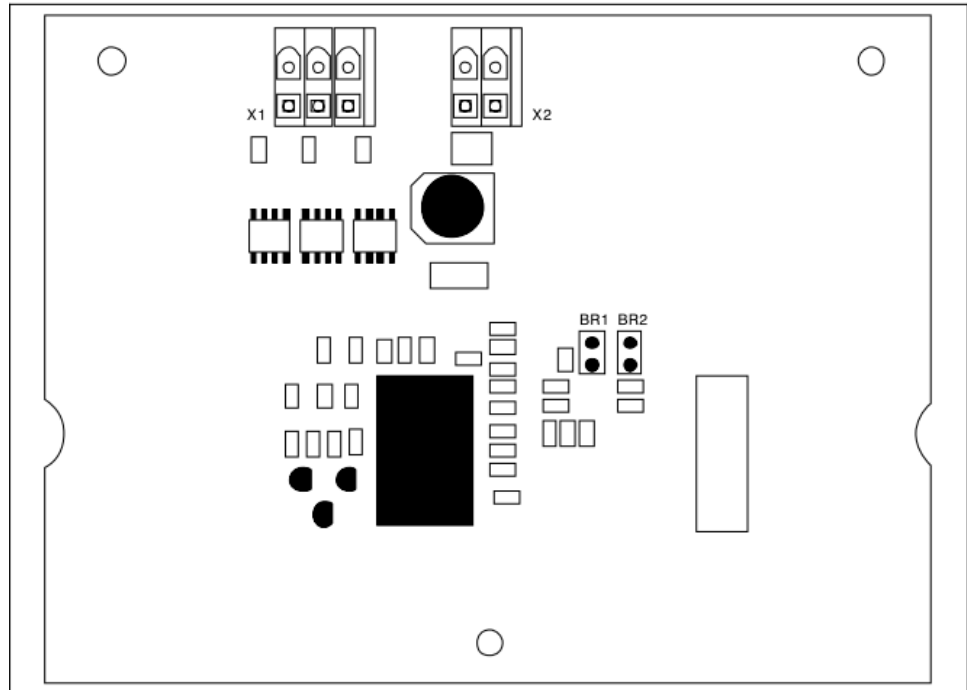

Fig. 5.5: Switching the fan voltage and fan connection terminal board on the FC-2 or FC-3 fan control circuit board
- ① Carefully unlock the snap-in closures of the housing using a screwdriver by simultaneously pressing in both clips located at one side of the housing lid. Then, lift the lid carefully.
- ② Pull the display board cable off the base board. Now remove the housing lid.
- ③ Place the calculated end-of-line resistor31  $R_{ER}$  into the connection terminal X1.
- ④ Fix the reset board to the mounting plate with 2 plastic spacers and one plastic spacer.
- ⑤ Install the mounting plate equipped with the reset board in the position shown in Fig. 5.5 in the TITANUS PRO·SENS® housing.
- ⑥ The electrical connection (X2) is described in section 5.6.4.
- ⑦ Re-connect the cable to the display board of the base board and replace the housing lid.
- ⑧ Tighten the lid using the snap-in closures.